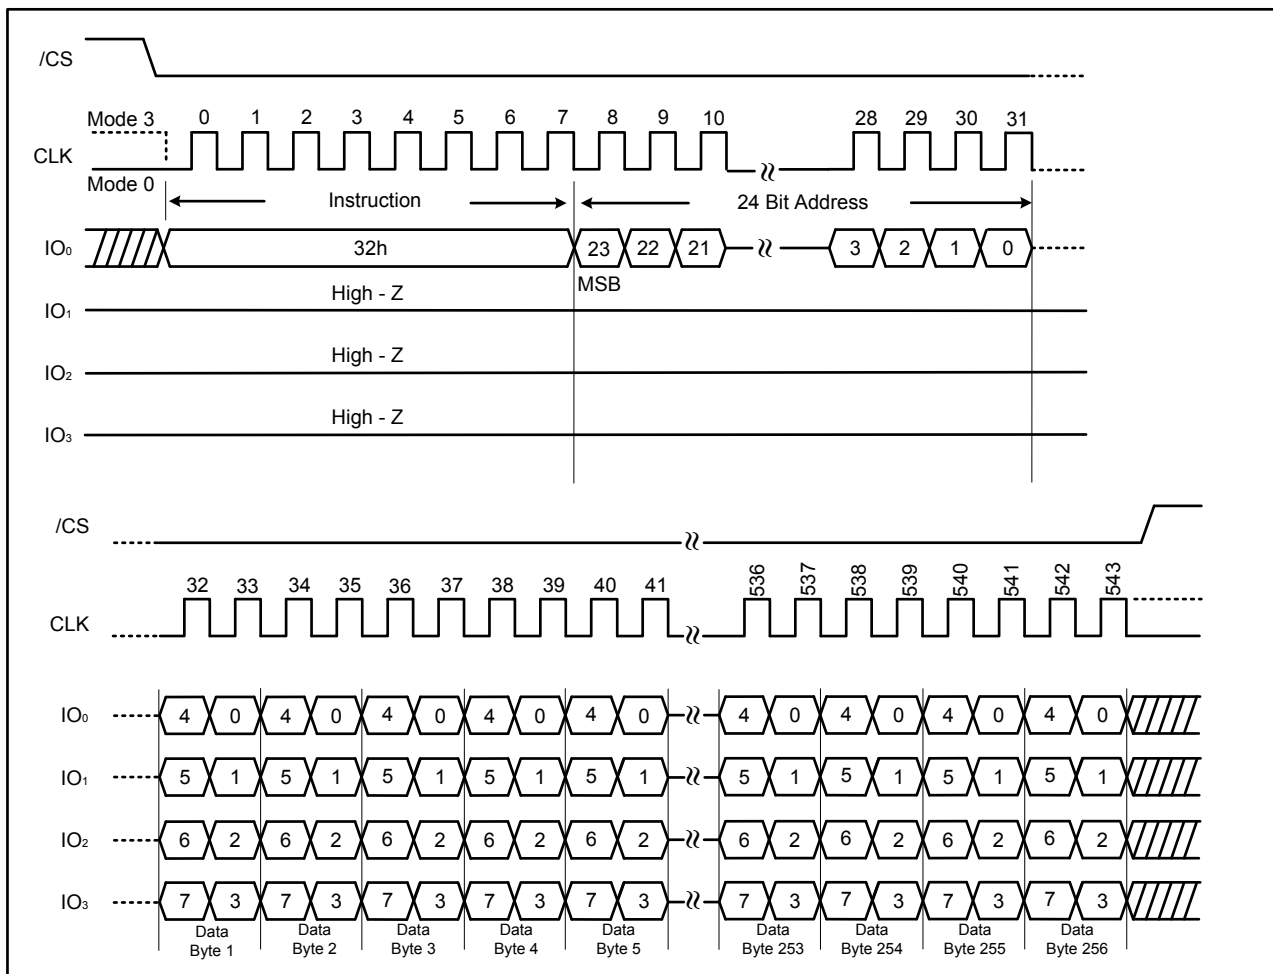

Figure 20. Quad Input Page Program Instruction (SPI Mode only)
To use Quad Input Page Program the Quad Enable (QE) bit in Status Register-2 must be set to 1. A Write Enable instruction must be executed before the device will accept the Quad Input Page Program instruction (Status Register-1, WEL=1). The instruction is initiated by driving the /CS pin low then shifting the instruction code “32h” followed by a 24-bit address (A23-A0) and at least one data byte, into the IO pins. The /CS pin must be held low for the entire length of the instruction while data is being sent to the device. All other functions of Quad Input Page Program are identical to standard Page Program. The Quad Input Page Program instruction sequence is shown in Figure 20.